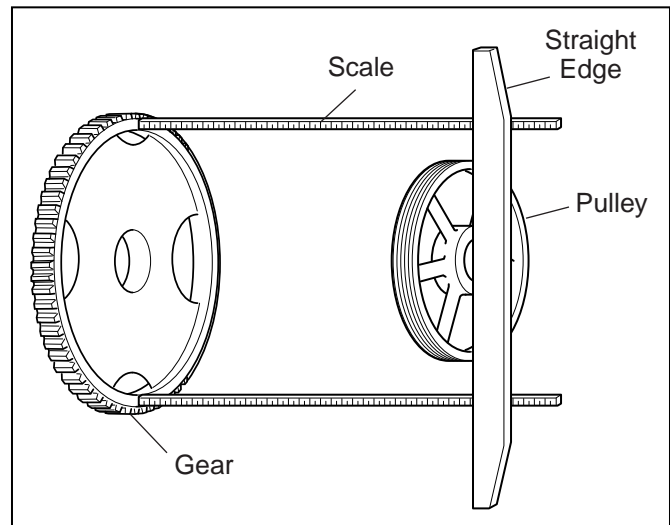

Figure 3.9 Positioning Vertically
4. To align vertically, follow the same procedure as above using the straight edge in a vertical position as shown in Figure 3.9.